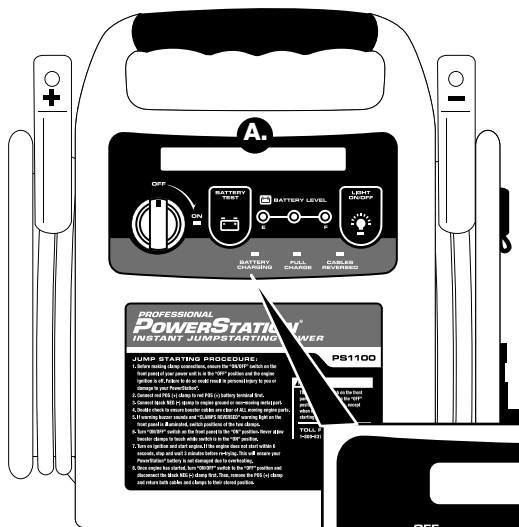

Figure 1
8. Turn the jumper cables power switch to the “ON” position (see Figure 1 on page 4 for location B). A green LED will indicate power is on. Crank the engine. Do not crank for more than six seconds. Allow the PS1100 to cool for at least 3 minutes between six second jumpstart cycles.
To use the integrated work lamp, simply press the work lamp power button on the front of the unit (see Figure 1 on page 4 for location E).